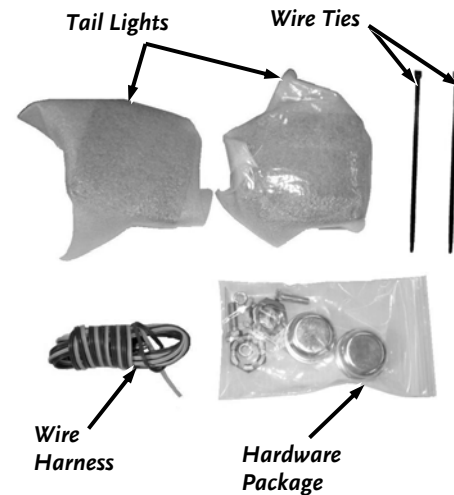

Figure 52
- Parts Box containing (Items below and **Figure 52**):